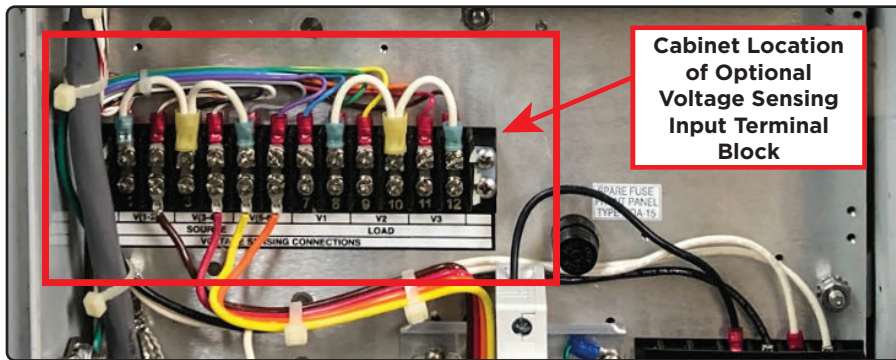

Figure 5 Location of Optional Voltage Sensing Terminal Block
1. 14-Pin and 19-Pin reclosers may have an optional voltage sensing input terminal block installed (Figure 5). If the control has this optional terminal block, verify that the jumpers are in the correct locations (Figure 6). The terminal block may have a cover shield which will need to be removed.